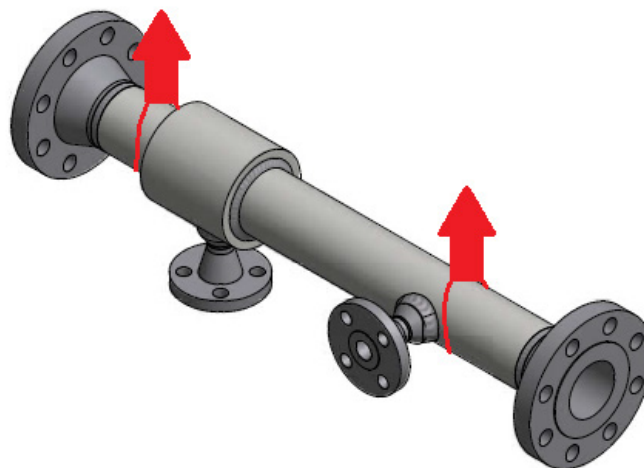

Figure 3.1—JetLine lifting diagram
Lift the JetLine mixing chamber spool into and out of place during installation or maintenance using slings at two (2) lifting points as illustrated in Figure 3.1.